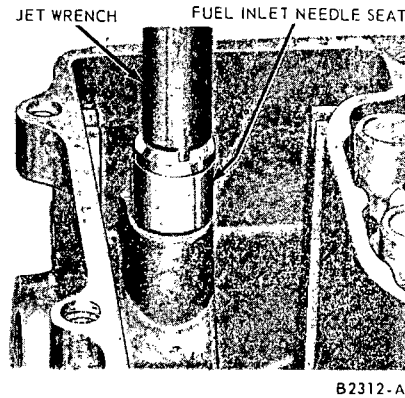

FIG. 17—Fuel Inlet Needle Seat Removal or Installation
2. Using a jet wrench, remove the fuel inlet needle seat, gasket and filter screen from each fuel bowl (Fig. 17).
13. Install the primary and secondary fuel inlet filters in the inlet valve seat mounting bores. Install the valve seats and gaskets (Fig. 17). Install the fuel inlet needle valves (Fig. 15).